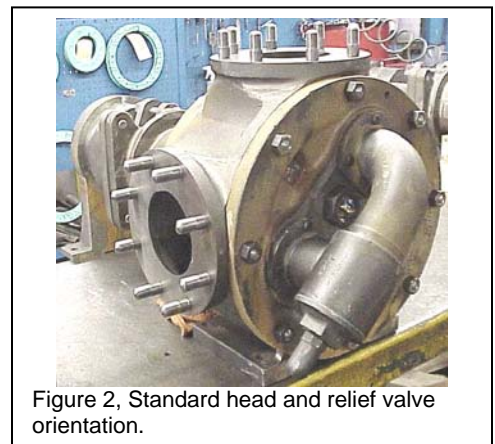

Figure 2, Standard head and relief valve orientation.
4. Relief valve bonnet (see page 12) must *always* point towards suction side of pump. If pump rotation is reversed, remove pressure relief valve and turn end for end. Figure 2 shows the standard orientation, with side suction and top discharge.